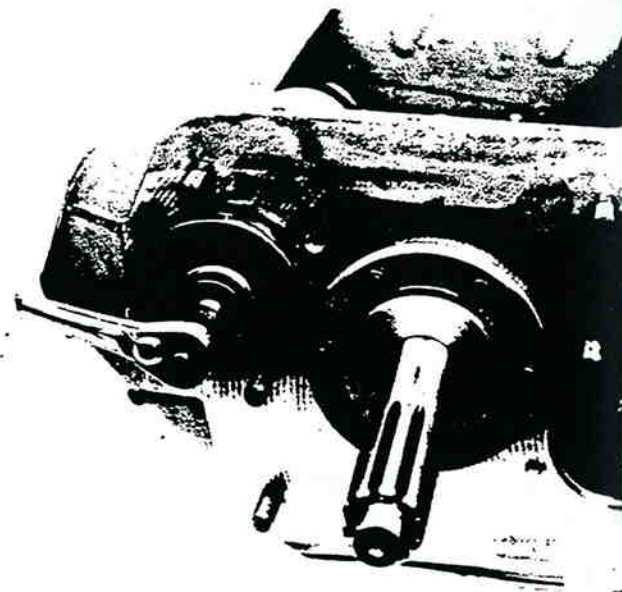

Figure 13-45. Bearing Removal.
6. Use a bearing puller to remove the front bearing from each countershaft (figure 13-45).